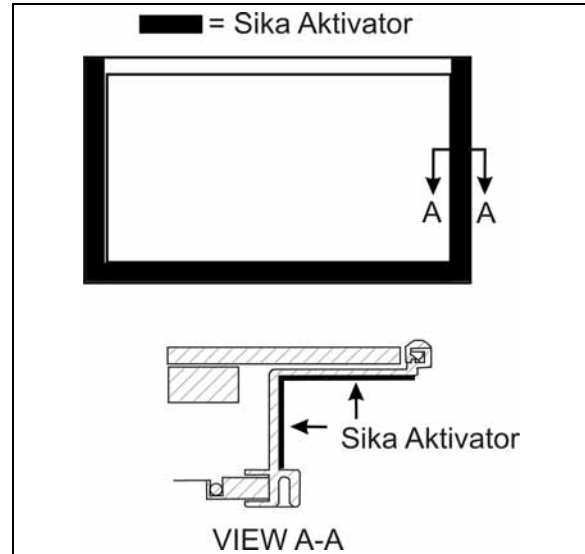

FIGURE 75 : SLIDING WINDOW - SIKa AKTIVATOR
2. Clean sliding window frame with anti-silicone and then apply Sika Aktivator as per FIGURE 75;